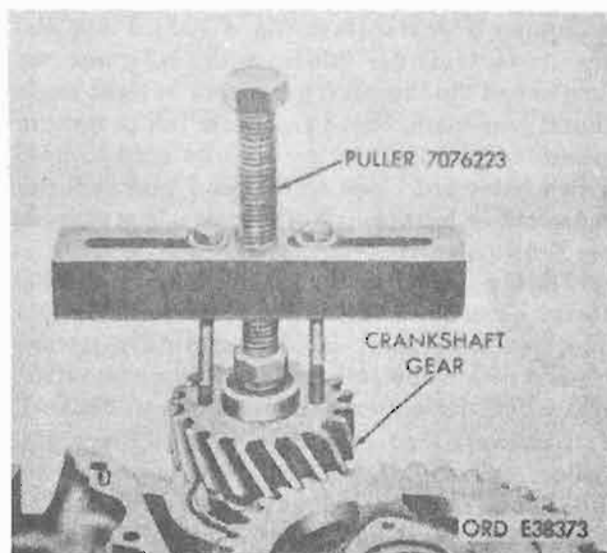

Figure 4-106. Crankshaft timing gear removal.
g. **Crankshaft Timing Gear**. Install gear puller 7076223 and remove crankshaft timing gear from crankshaft (fig. 4-106).